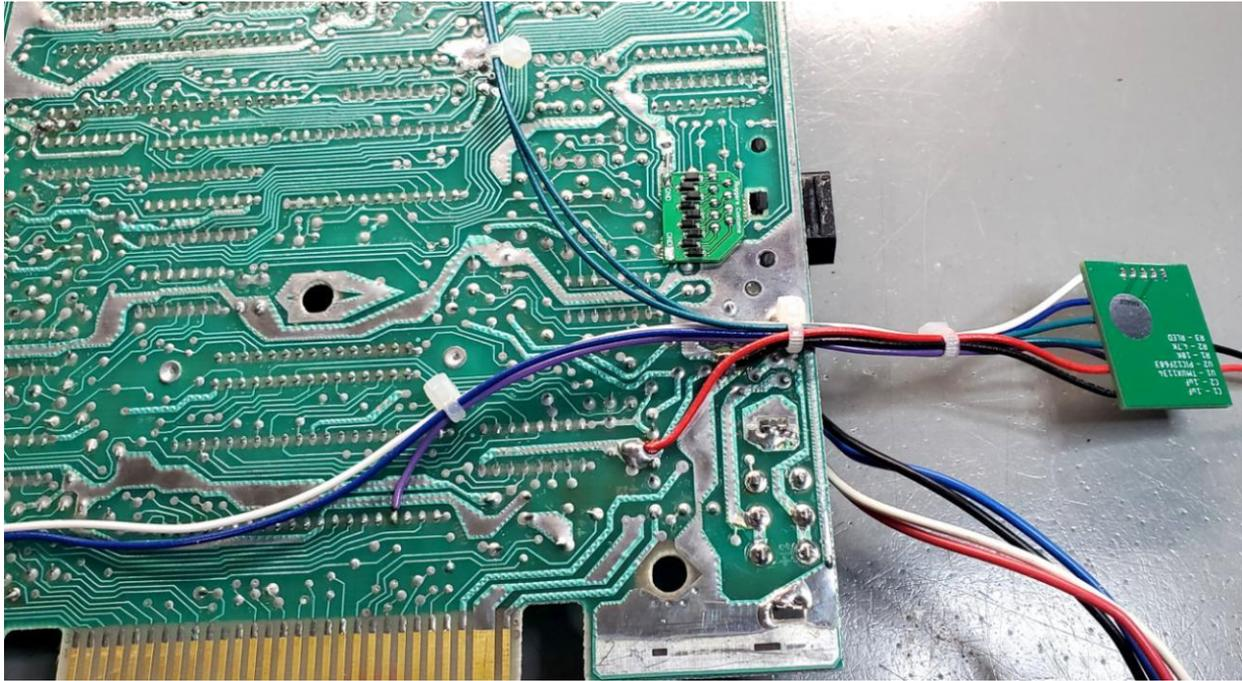

Figure 10: Install wire tie wraps
Step 7: Remove PCB from lower housing and install wire cable ties as shown in **Figure 10**.